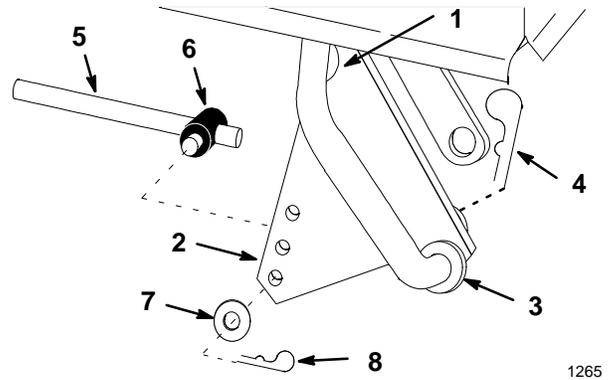

Figure 11
- Position notch in lift plate around left side tractor lift arm and slide lift plate onto attachment lift arm (Fig. 11). Secure with hairpin cotter from mower, at lift arm.
- Thread trunnion onto the lift rod and insert into one of the holes in the attachment lift plate with 9/16" (14 mm) washer and medium hairpin cotter (Fig. 11).